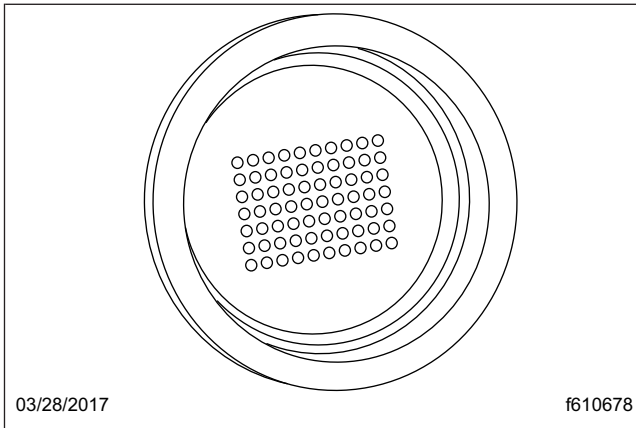

Fig. 8.15, Power-Up Dot Display
3. On power up, the current gear indicator shows the dot display, arranged in a square pattern. All dots in the pattern should light up, without gaps or spaces. See Fig. 8.15.